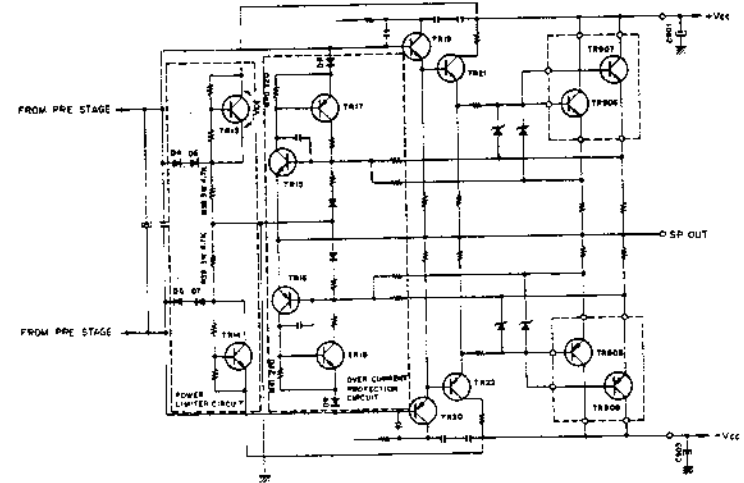
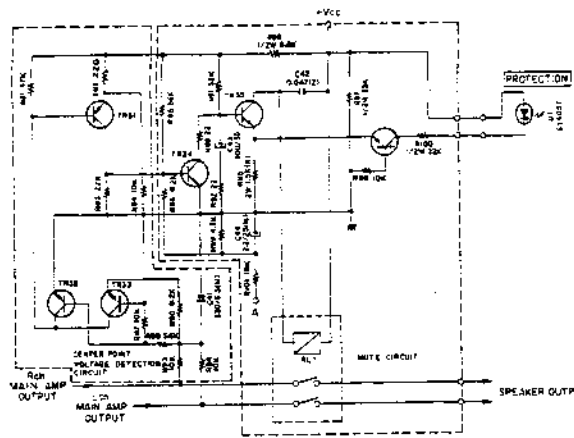

Fig. 13
Fig. 14
### 4) Over Current Protection Circuit (Refer to Fig. 13)
When the speaker terminal of the power amplifier is shortcircuited or when the load impedance equivalently becomes too low due to too many speaker connections, the output stage transistor breaks down because of excessive power consumption by the transistors or of excess current. The circuit shown in Fig. 13 composed of TR15 and 17 and TR16 and 18 prevents this damage. TR15 and 17 circuit operates for excessive + signal current and TR16 and 18 operate for excessive - signal. The case when there is a current overflow of + signal will be explained here. Ordinarily, TR15 base potential and the emitter potential are almost equal and TR15 is OFF. When the load  $R_L$  becomes lower than the power amplifier's specified load or is short-circuited, excess current flows to the output stage transistor. This causes the base potential of TR15 to become greater than the emitter potential and TR15 turns ON. When this happens, the signal to TR19 passes D8 and R40 and is dropped to the center (node) point. The output stage transistor, therefore, stops receiving the signal and the excess current does not flow. Also when TR15 is turned ON, TR17 base potential is decreased to turn on TR17. TR15 base potential is thereby further increased to make the operation foolproof. Also when TR15 is turned ON, relay RL1 (see Fig. 14) turns OFF and the power amplifier output is disconnected from the speaker. TR16 and 18 operate in the same way for excess signal current to protect the output stage transistor.
### 5) Power Limiter Circuit (Refer to Fig. 13)
6) Mute Circuit (Refer to Fig. 14)
When the power of the amplifier is turned on or off, pop and distortion noise generate to damage the speakers or produce unpleasant sound. The mute circuit of Fig. 14 prevents these.
7) Center (node) Point Voltage Detection Circuit (Refer to Fig. 14)
When there is DC potential at the power amplifier's speaker output terminal, the DC will flow to the speaker in the case of OCL circuitry and damage the speakers. For this reason, when there is a DC potential, a circuit is necessary to detect the potential to turn off the mute circuit relay RL1 and cut off the speaker from the power amplifier output. This circuit is called a center (node) point voltage detection circuit and is shown in Fig. 14.